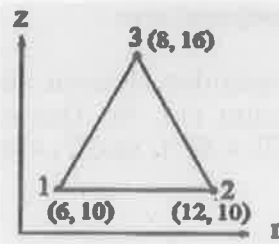

Figure 6
- (b) Calculate the element stiffness matrix and the thermal force vector for the axisymmetric triangular element shown in figure 6. The element experiences a 20°C increase in temperature. The coordinates are in mm. Take $\alpha = 15 \times 10^{-6}/^\circ\text{C}$; $E = 2 \times 10^5 \text{ N/mm}^2$ $\mu = 0.3$.